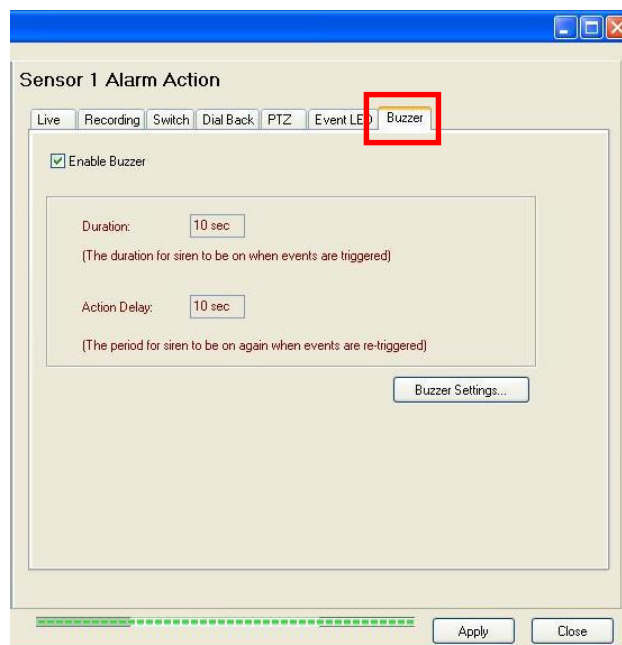

Fig 8.2.7a
Step 1 : In {(Event) Action} panel, click [**Buzzer**] option to set buzzer setting as **Fig 8.2.7a**.